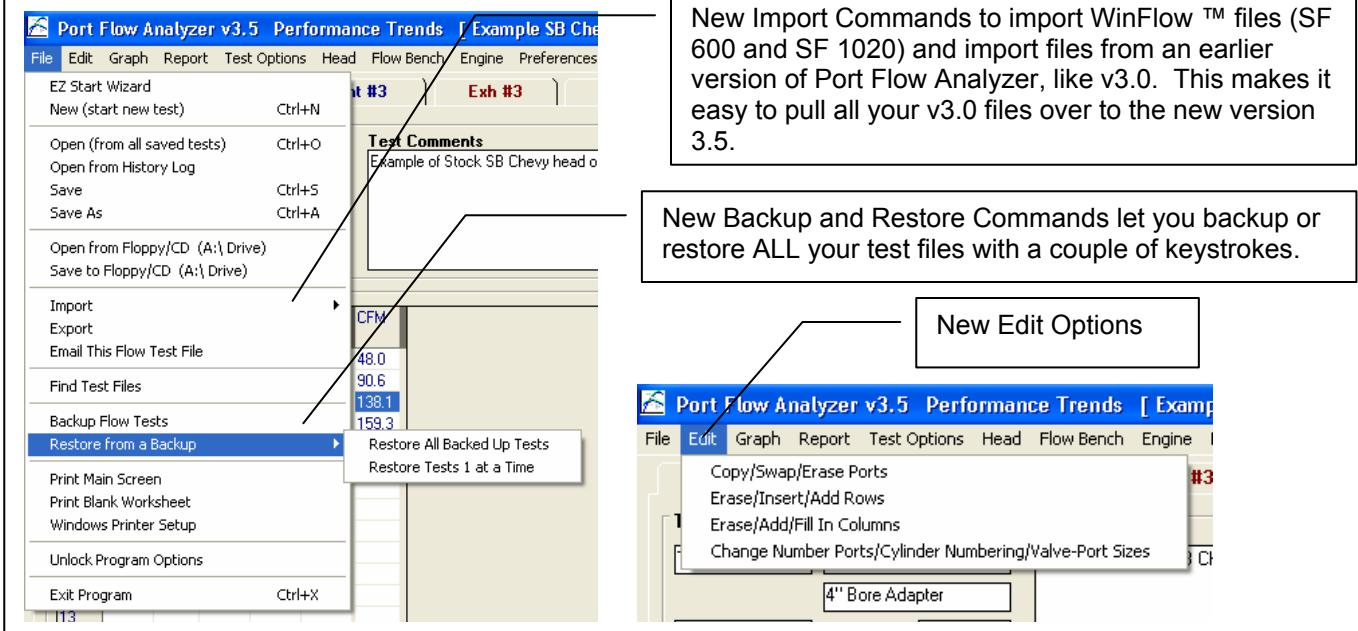

Figure A23 Options to Record a Single Velocity Data Point
- Added a new Port Velocity mode in test options, where you can record 1 pitot tube pressure at every test point. A new Preference called "Prompt for Recording Single Vel. Pt." was also added to let the program Prompt you for recording a single Pitot Tube velocity reading after you record the CFM readings. Set this to No and the program records all data AND Pitot Tube velocity at the same time. Set this to Yes, and the program records all CFM data EXCEPT velocity, then displays a message "Now Record Velocity with <F1>" for about about 1 second, then when you press <F1> again, just the velocity reading is taken. This data is contained in a data column called "Vel #1". This data is graphed vs Lift or L/D if you select to graph a Port Velocity Map, and is included in Report Types of "Raw Data" and "Calculated Data". (Fig A23)
- You can save a picture file (like a jpg file) at each lift point, like recording flow patterns with wet flow benches. (Fig A23)